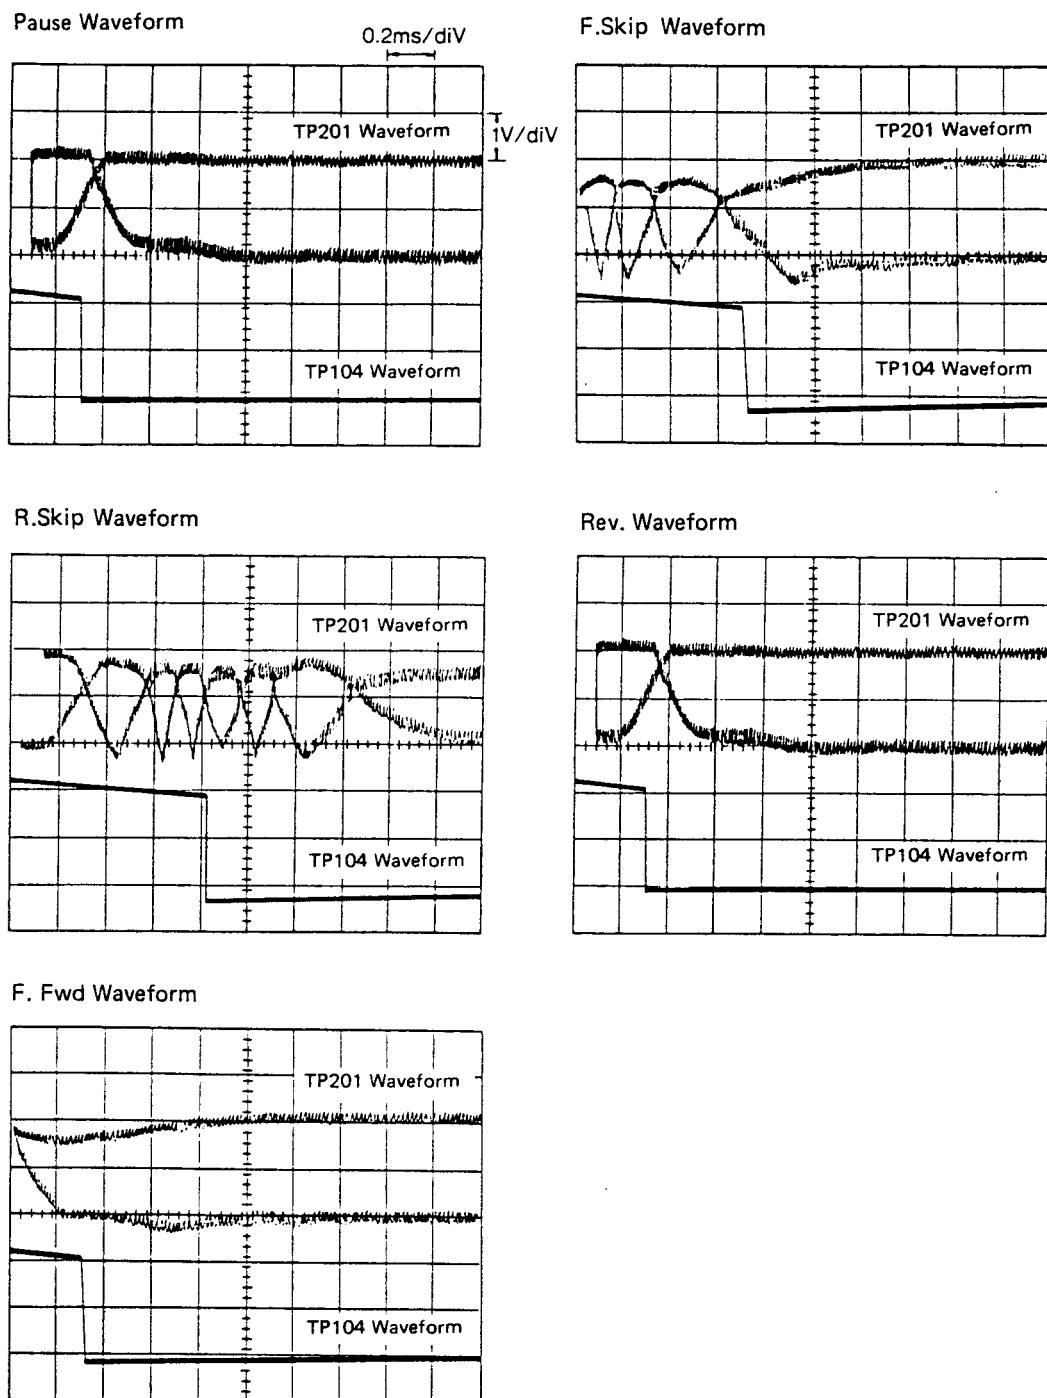

Fig. 3.10 EFM Signal Waveforms Upon Track Jump
- Set a trigger on the leading edge of the TP104 waveform on CH2 (Lens Kick) and observe the TP201 waveform (Fig. 3.10).